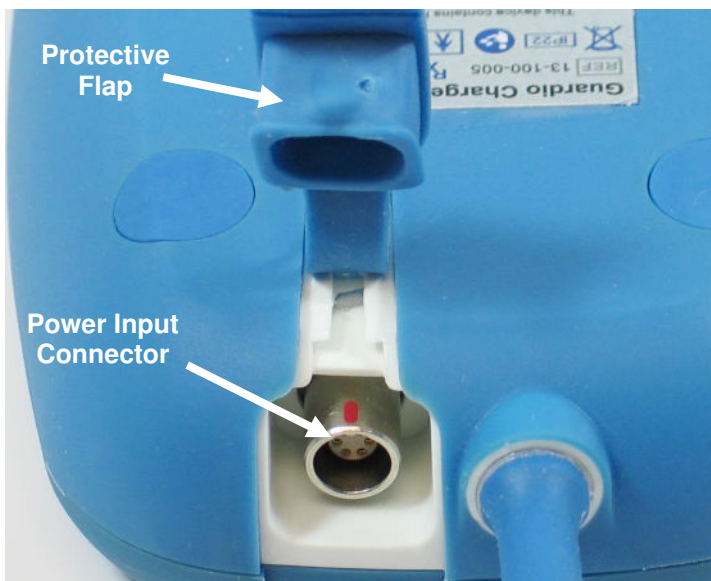

Figure 7: Back of the Charger
5. Remove the protective cover flap from the power input connector located next to the base of the charging wand cable. **See Figure 7.**